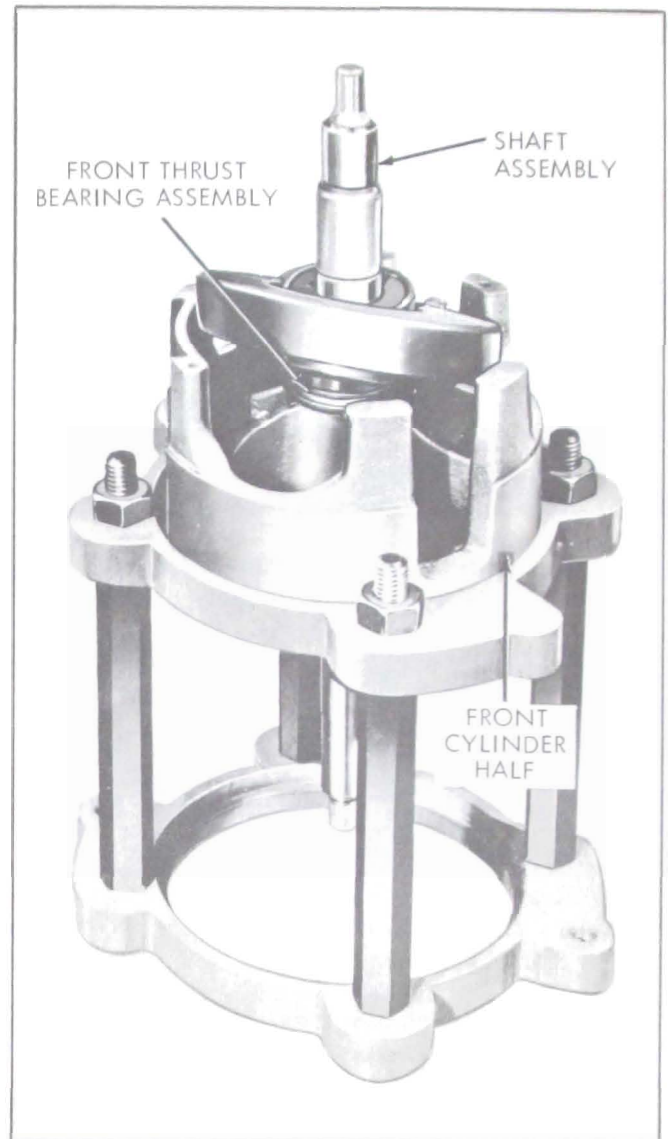

Figure 11-107—Shaft and Bearing Assembly In Front Cylinder Half
3. Place FRONT half of cylinder on J-9397 fixture. Insert threaded end of shaft (with front thrust bearing assembly) through front cylinder half and allow thrust race assembly to rest on hub of cylinder. See Figure 11-107.